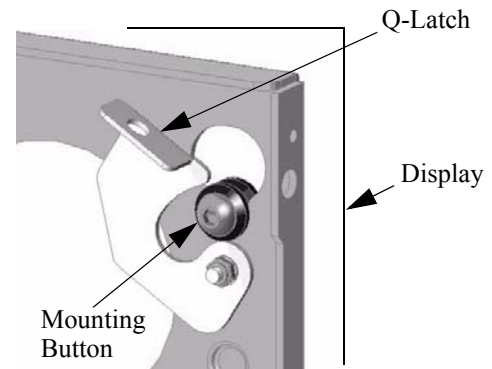

FIGURE 11. MOUNT DISPLAY
3. With an assistant, lift the display up to the mount and align the mounting buttons (on the PFB bracket) with the teardrop slots on the faceplate. Make sure mounting buttons fully engage all the teardrop slots on the faceplate (see Figure 11).